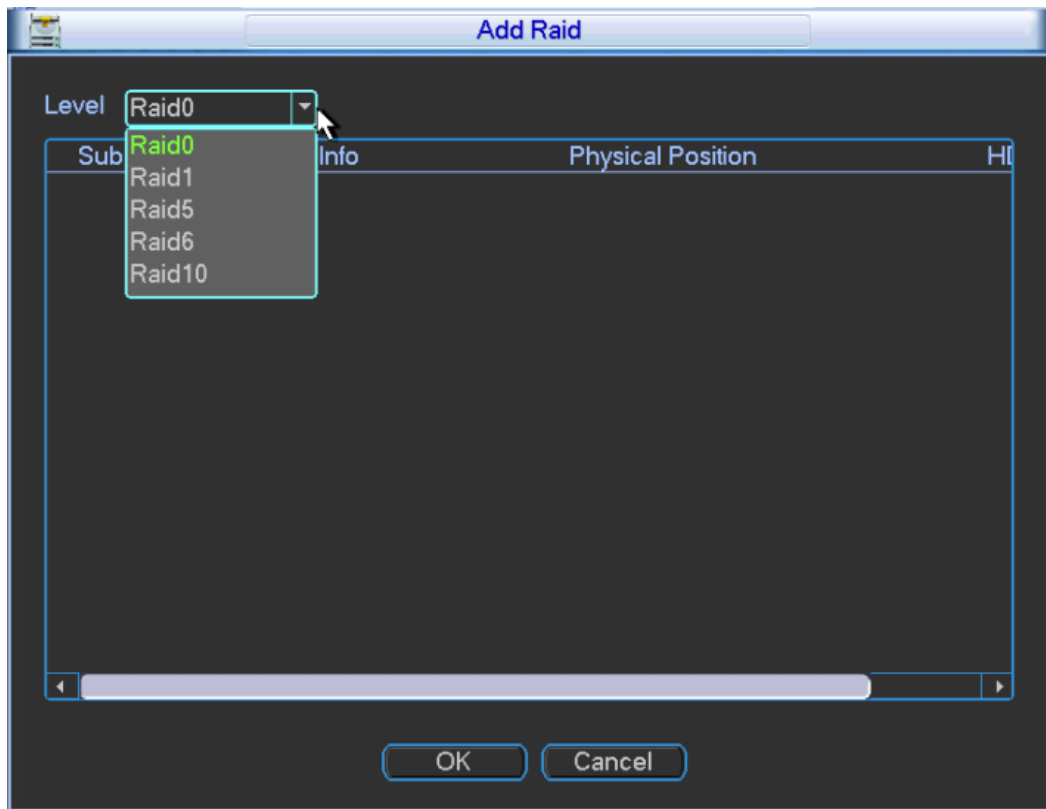

Figure 3-79
Step 1 Click “Add”. The system displays “Add Raid” interface, as shown in Figure 3-79.